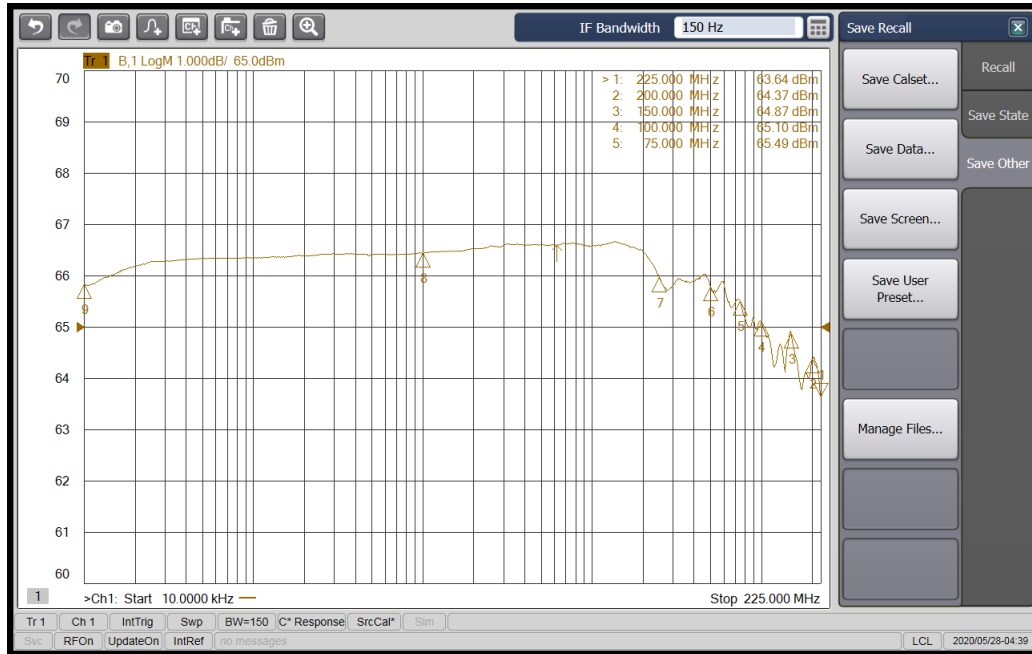
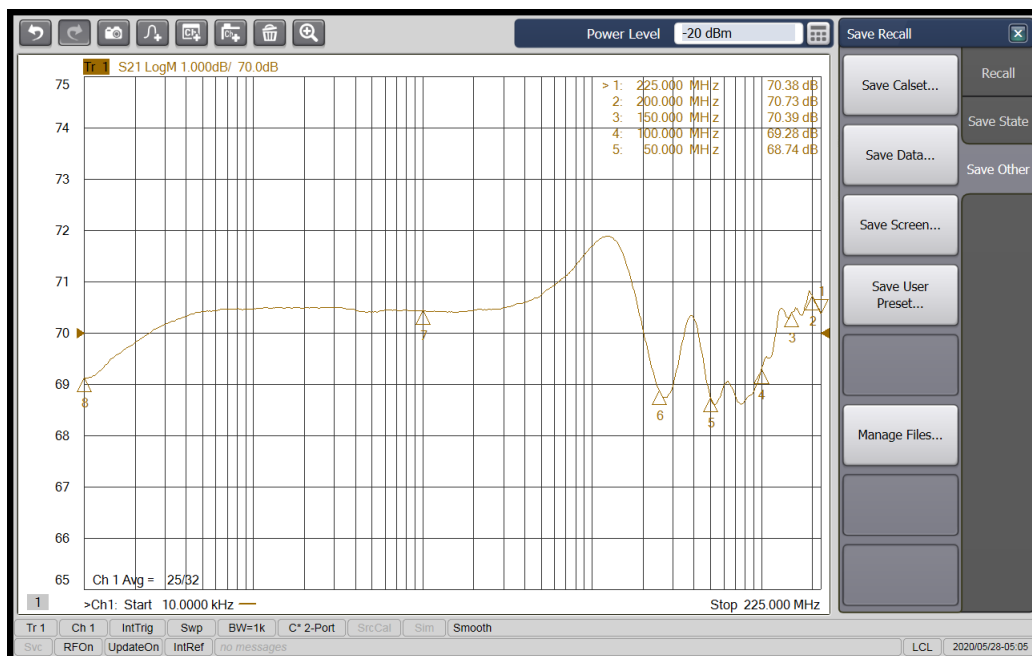

Figure 4-1. Typical Response at 0 dBm Input
Figure 4-2. Typical Response at -20 dBm Input
1. The Model 2500A225C's typical gain response at 0 dBm input and -20 dBm input is shown in Figures 4-1 and 4-2. The actual gain may vary considerably from that shown in Figure 4-1 but should be ≥ 63 dBm. Figure 4-2 should be ≥ 66 dBm.